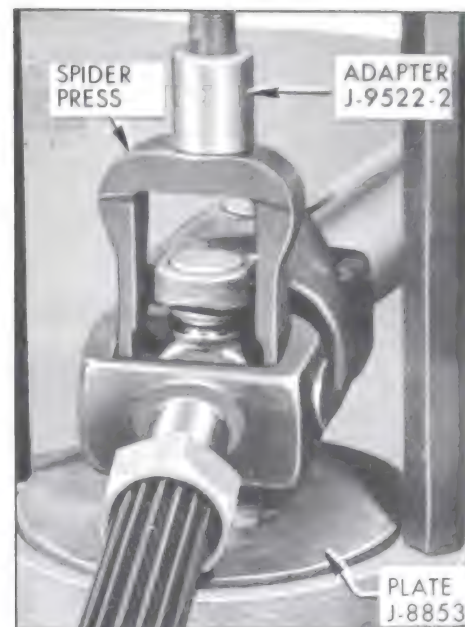

Figure 6-54—Pressing Out Bearing
Replacer J-8853 as a base plate. Attach Adapter J-9522-2 onto the ram screw. See Figure 6-54.
3. Position propeller shaft constant velocity joint into the fixture as set up in Step 2 with the link yoke bearing over the hole in J-8853 Replacer Plate. Install Spider Press J-9522-3 on spider. See Figure 6-54. The notches in the spider press are offset so that this press can be positioned on the spider without interference from the link yoke casting.